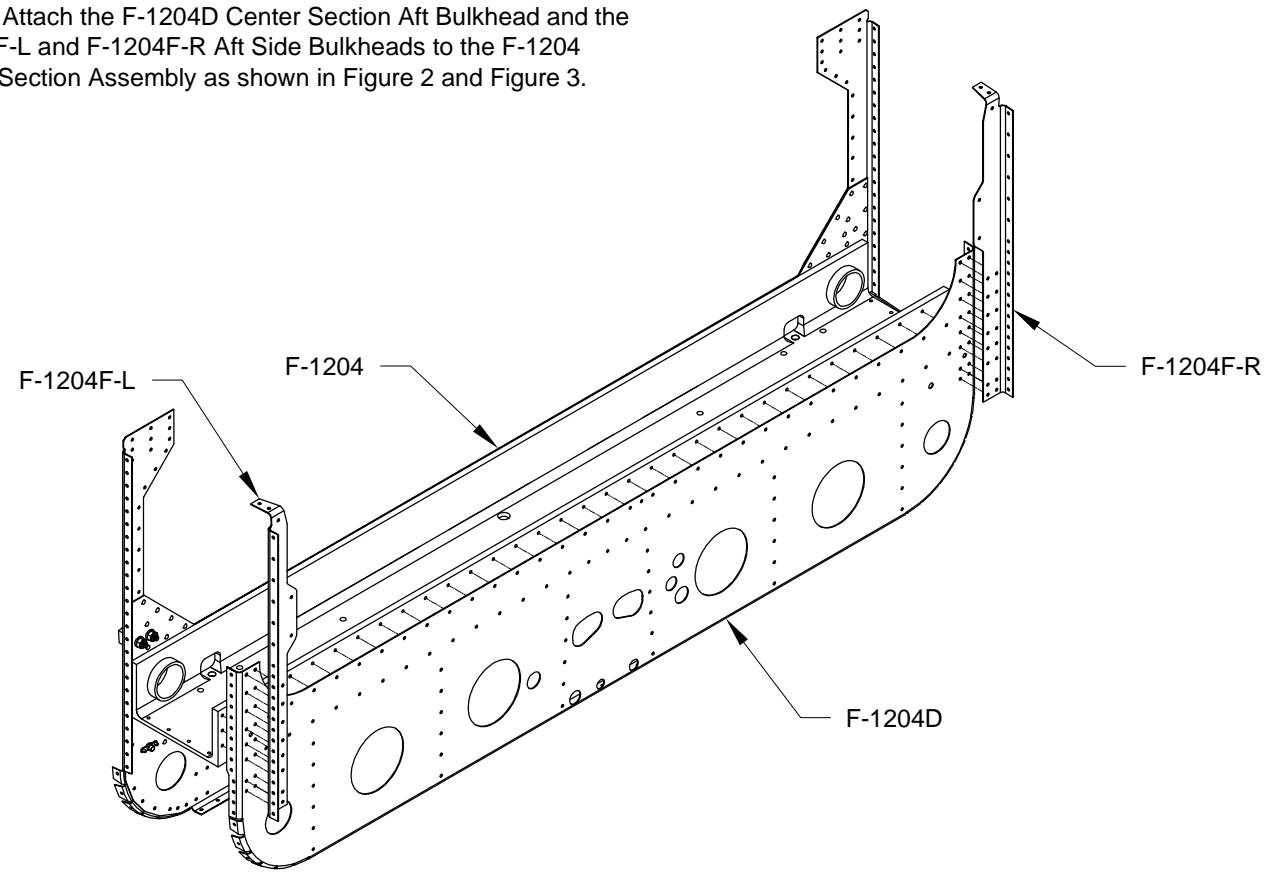

FIGURE 2: BULKHEAD ASSEMBLY
Step 2: Attach the F-1204D Center Section Aft Bulkhead and the F-1204F-L and F-1204F-R Aft Side Bulkheads to the F-1204 Center Section Assembly as shown in Figure 2 and Figure 3.